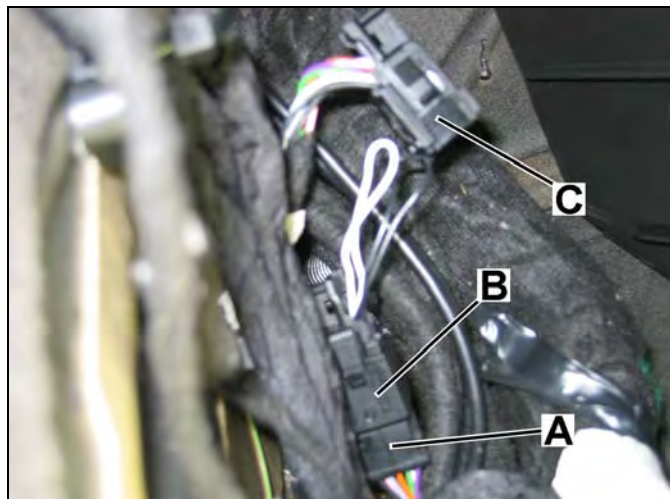

Figure 20
- Tele Aid microphone array female connector (A, Figure 20) and connected male jumper (B, Figure 20) with black and white looped wires
- Telephone/VCS microphone array male connector (C, Figure 20)
4. Disconnect the male jumper (B, Figure 20) from the Tele Aid microphone array female connector (A, Figure 20)